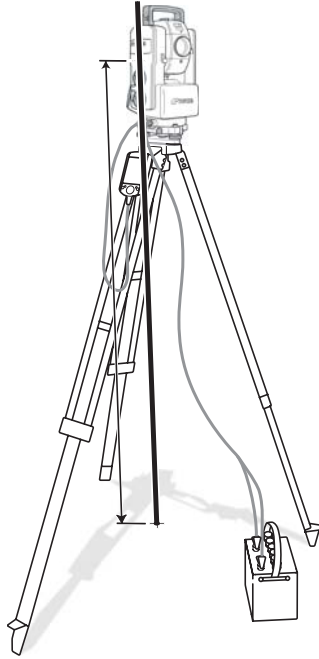

Figure 5-3. Measure GRT-2000 Height
5. Accurately measure the instrument height from the Control Point (station point) to the center index of the GRT-2000. Use the slant distance as shown in Figure 5-3.